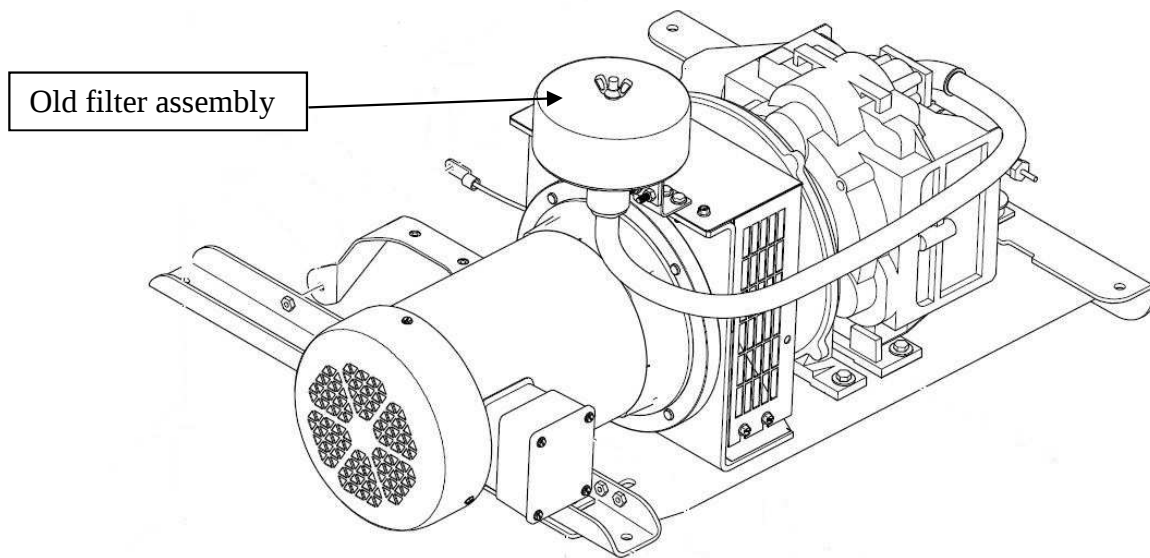

Figure 1: Air compressor assembly
3. Locate the old filter mounted on top of the air compressor. Figure 1.